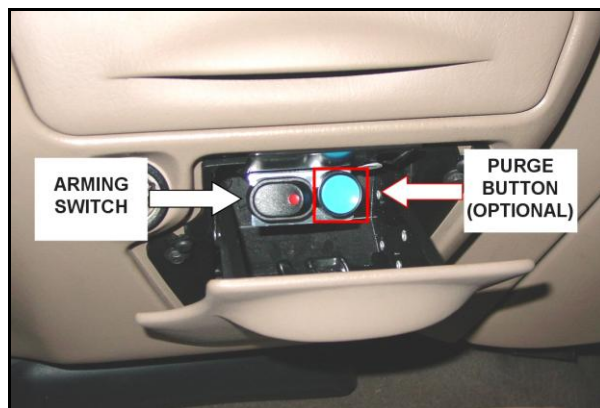

Figure 17
3. Install the NOS arming toggle switch (16) in the vehicle interior, within easy reach of the driver. This switch is to be used to activate the nitrous system once safe engine RPM levels are reached. See **Figure 17**.